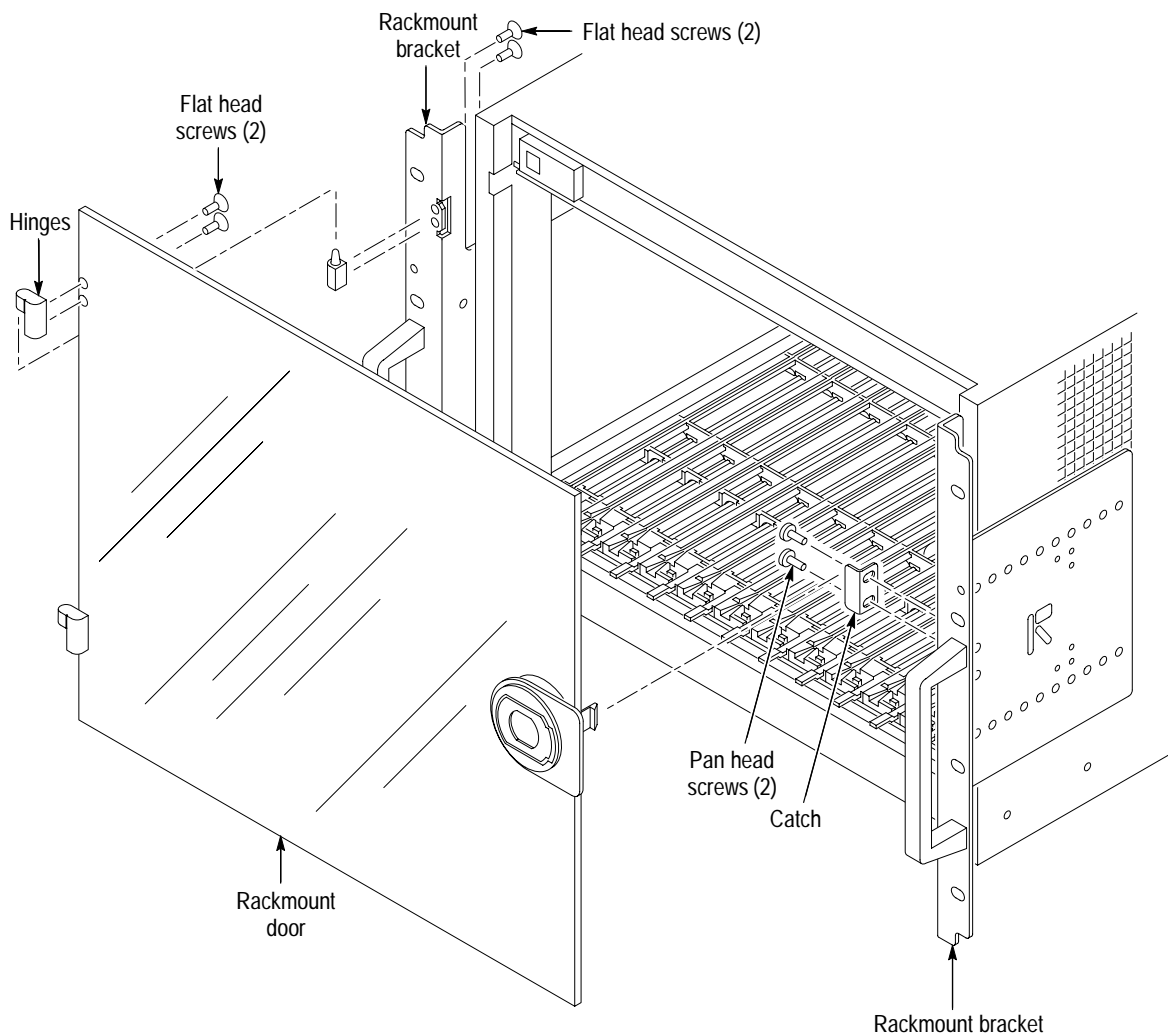

Figure 1–11: Installing the rackmount door (Option 2R)
Refer to Figure 1–11 and perform the following steps to install the rackmount door for Option 2R:
1. Install the bottom halves of the two hinges to the left rackmount bracket as shown in Figure 1–11.